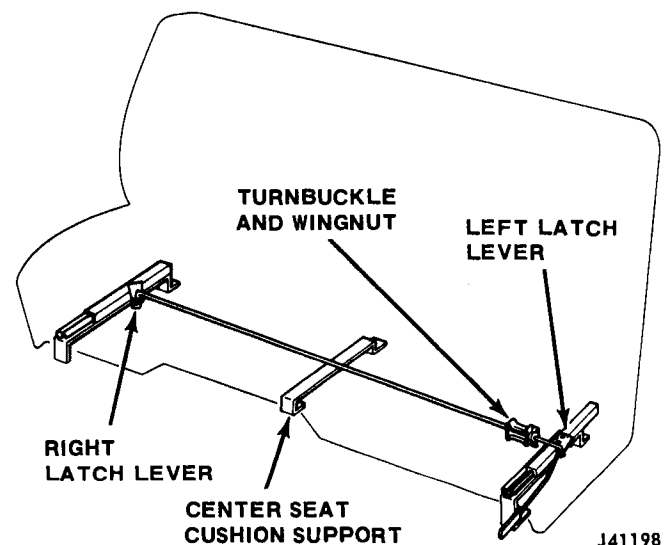

Fig. 19-1 Front Seat Adjustment—Typical
- (1) Locate turnbuckle under the bench seat (fig. 19-1). Loosen turnbuckle wingnut.
- (2) Tighten turnbuckle until slack is removed from wire.
- (3) Back off turnbuckle three turns.
- (4) Secure wingnut up against turnbuckle.
- (5) Check for proper seat adjustment operation. If right side of seat will not release, increase tension by tightening turnbuckle. If right side of seat will not lock in place, decrease tension by loosening turnbuckle.